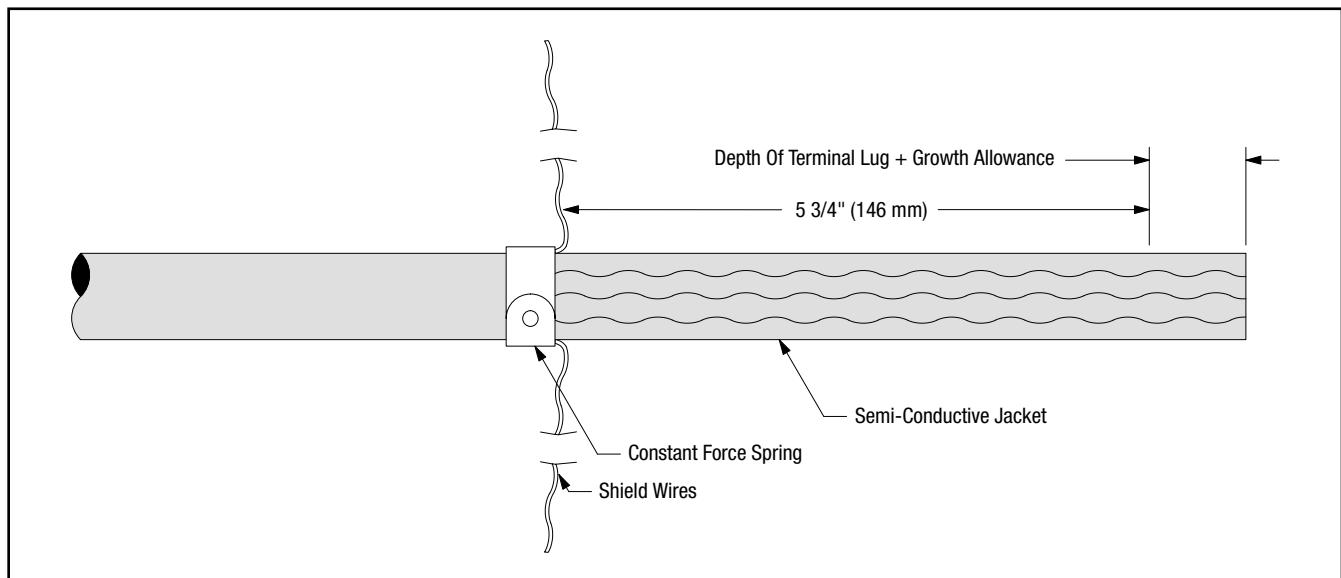

Figure 16
12.2 Prepare cable using dimensions shown in *Figures 16, 17 and 18*. **BE SURE TO ALLOW FOR DEPTH OF TERMINAL LUG.**
12.3 Install constant force spring as shown in *Figure 16*. Pull shield wires through semi-conductive jacket to leading edge of constant force spring (*Figure 16*).